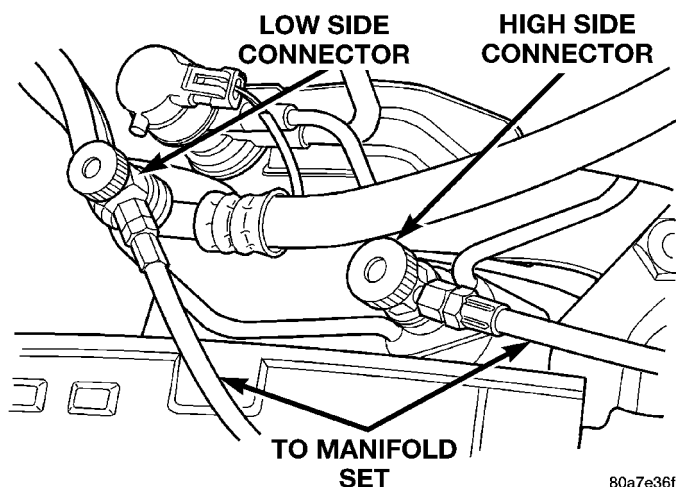

Fig. 18 Refrigerant Recovery Machine Hookup
(1) Connect a suitable charging station, refrigerant recovery machine, and a manifold gauge set with vacuum pump (Fig. 18).